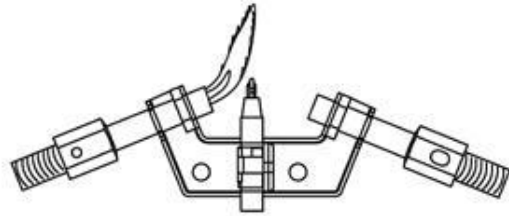

Figure 26 - Incorrect Pilot Flame Pattern
- Figure 26 shows an incorrect pilot flame pattern. The incorrect pilot flame is not touching the thermocouple. This will cause the thermocouple to cool. When the thermocouple cools, the heater will shut down.
- If the pilot flame is incorrect, as shown in Figure 26. Turn heater off (see "To Turn Off Gas to Appliance", page 21). See Troubleshooting, page 25-27.